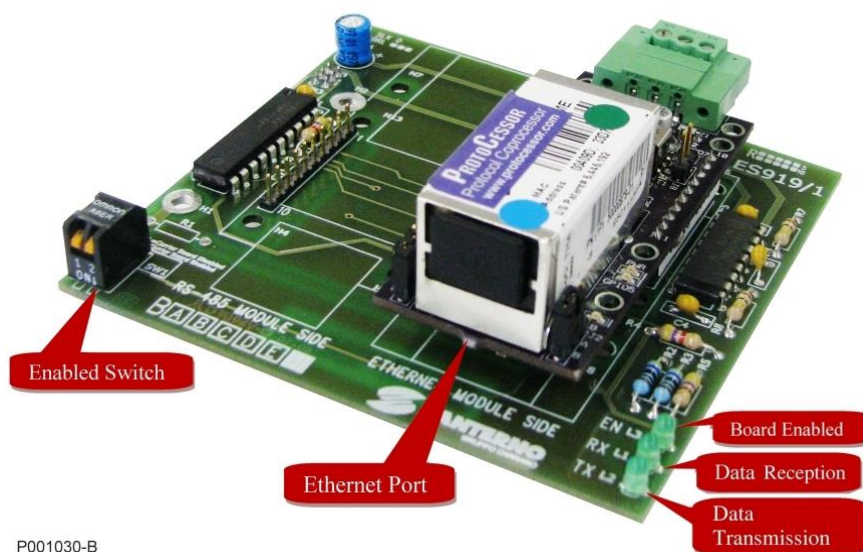

Figure 116: ES919 Board for BACnet/Ethernet
1. Mount the BACnet device in the way shown in Figure 116.